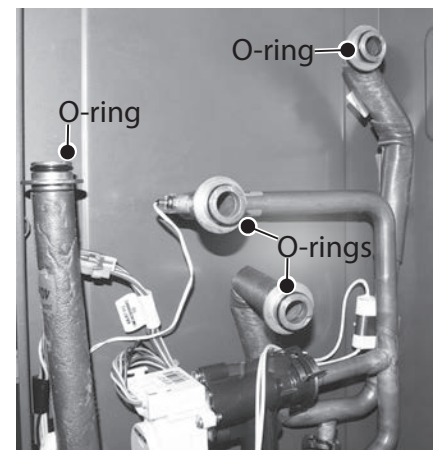

Figure 163 - Replacing HEX O-rings
**62** Locate the four new O-rings provided in the kit. Remove the old O-rings from inlet and outlet water connections for the HEX assembly and replace with new O-rings. See Figure 163.
- 65** Locate the four new O-rings provided in the kit. Remove the old O-rings from inlet and outlet water connections for the HEX assembly and replace with new O-rings. See Figure 163.